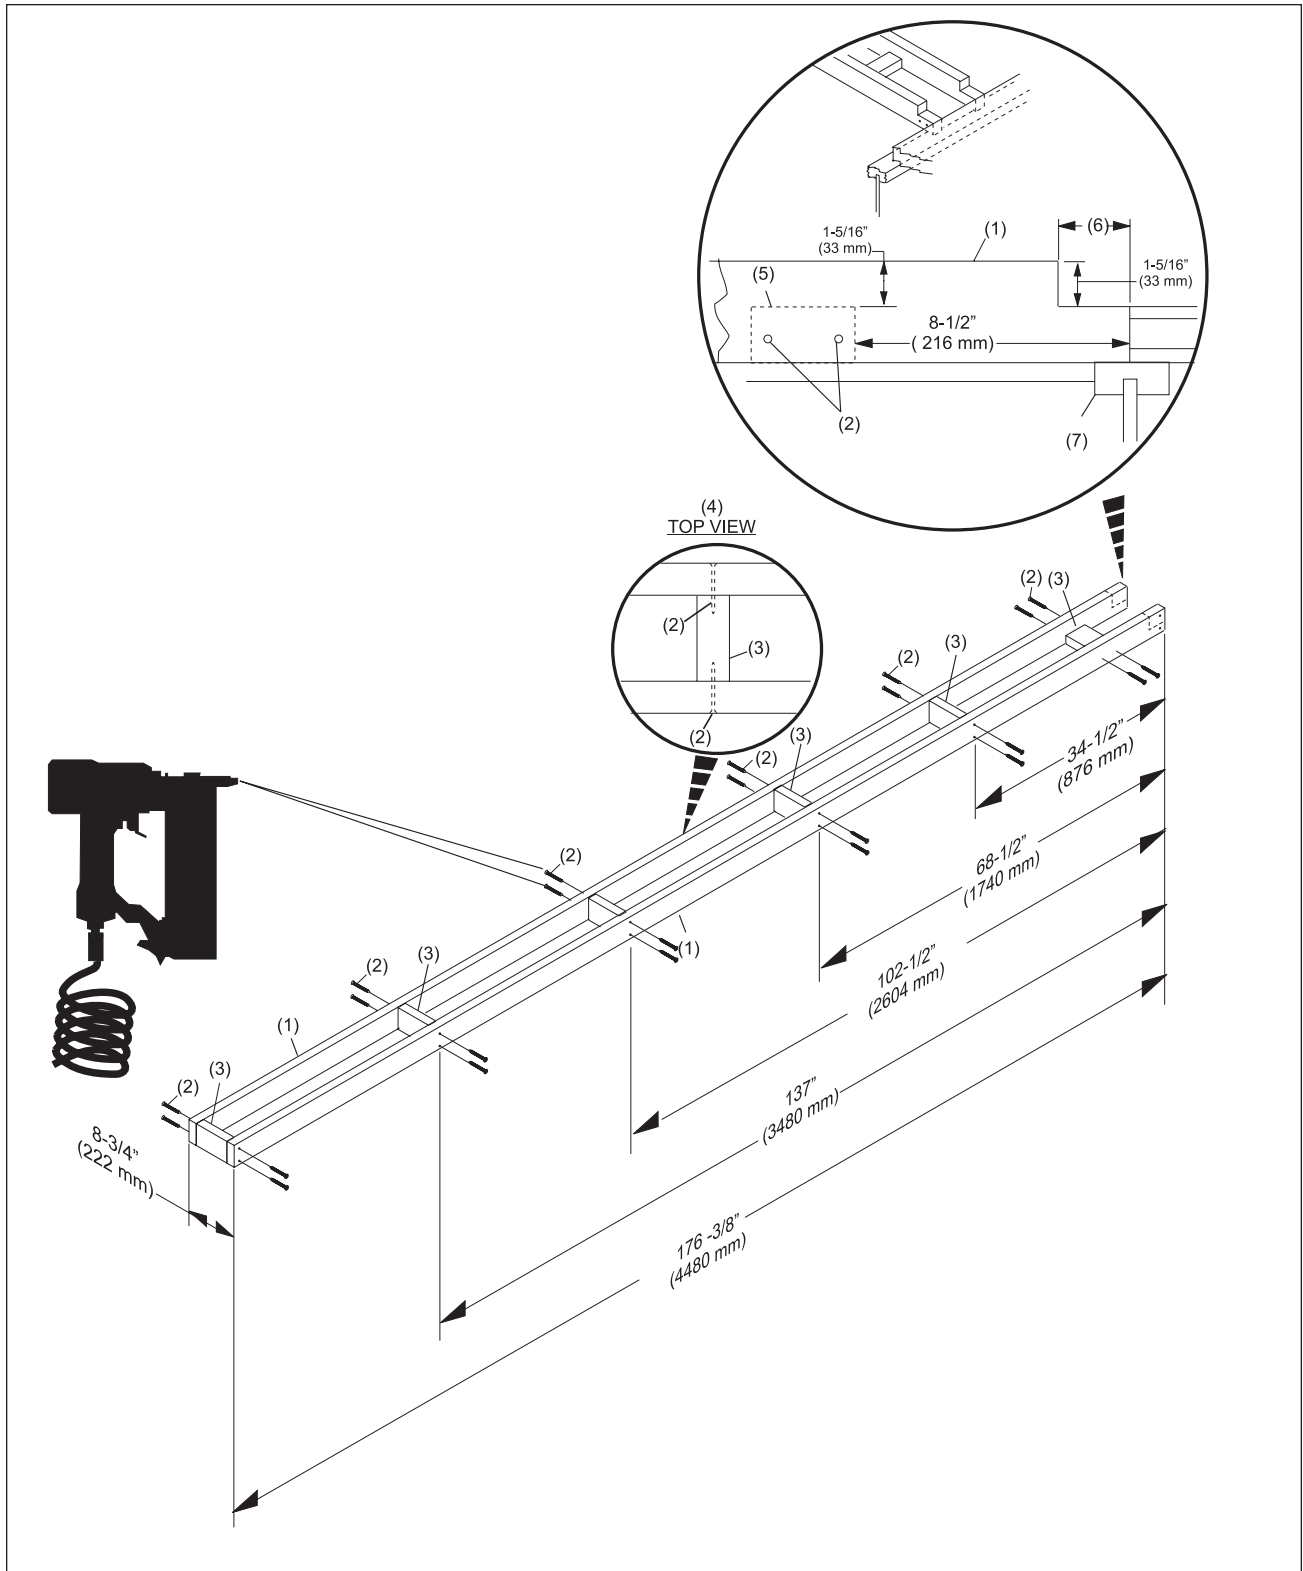

Figure 6. APPROACH end Support Frame
NOTE: The spacer closest to the foul line (item 5) on the Approach End support frame must be installed horizontally as shown in Figure 6.